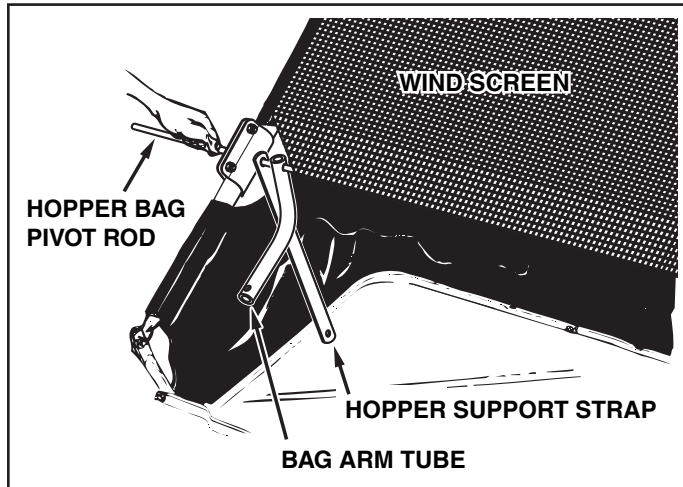

FIGURE 18
- Slide the end of the pivot rod through the upper hopper tube and the hopper mount clamps on one side of the hopper. Place a hopper support strap and then a bag arm tube onto the rod. Slide the rod through the stitched sleeve at the front edge of the wind screen, and then place another bag arm tube and a hopper support strap onto the rod. Slide the rod through the other upper hopper tube and hopper mount clamps. See figure 18.